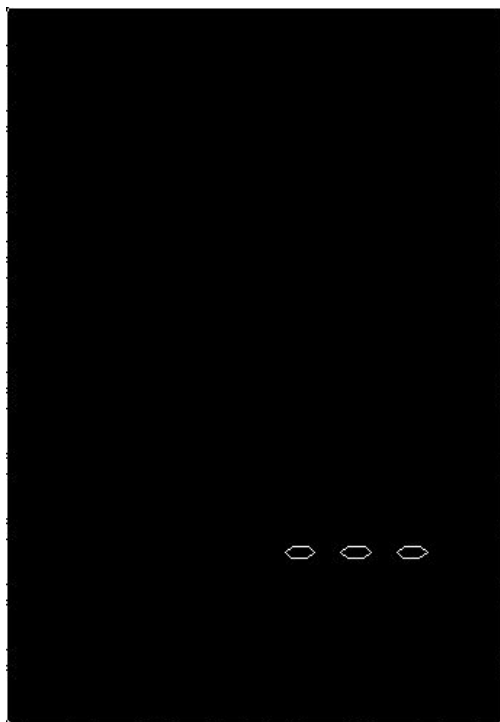
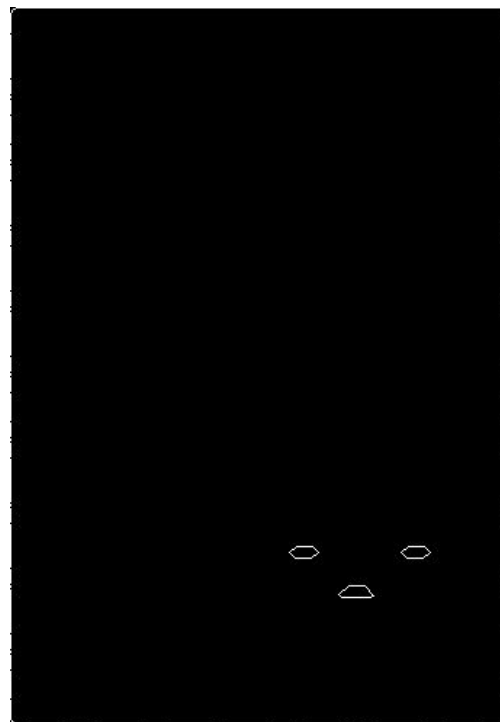

Figure 2
Figure 3
4.1.1 When the Emitter Unit is powered on, you must do the pre-connection within 10 minutes; you should remove the batteries of Receiver Unit, press and hold on the up button (▲), then, fit up the batteries. The LCD of Receiver Unit will show“- -” icon (Figure 2), it means the pre-connection is processing. When the icon is displayed“- _” icon (figure 3), it shows that the pre-connection is completed.